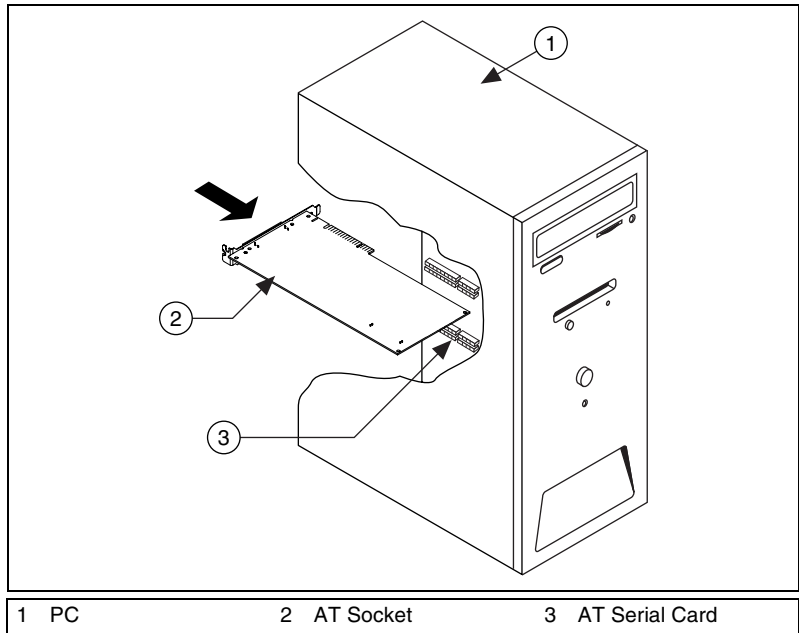

Figure 6-1. AT Serial Board Installation
6. Insert the AT serial board into the slot with the serial connectors toward the opening on the back panel. Make sure that you insert the board all the way into the slot. The board might seem to click firmly into place, even though it is only part of the way in. Figure 6-1 shows how to install the AT serial board into an expansion slot.